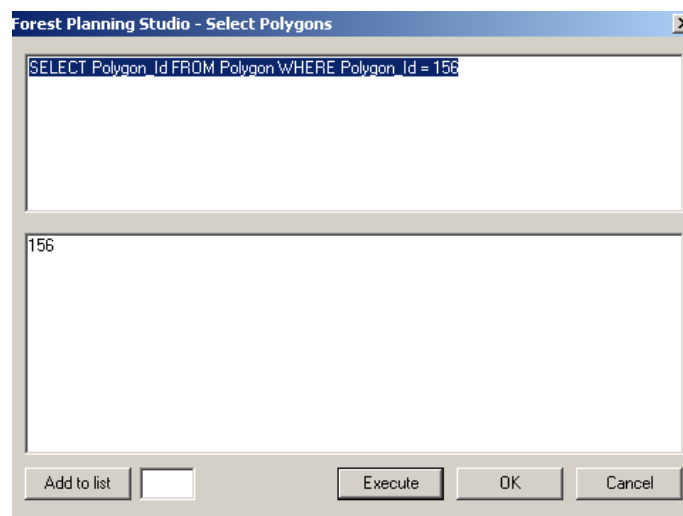

Figure 53: Select Polygon window
- 10.2.2 From the drop down menu select *Edit Poly = 156* as shown in Figure 53.